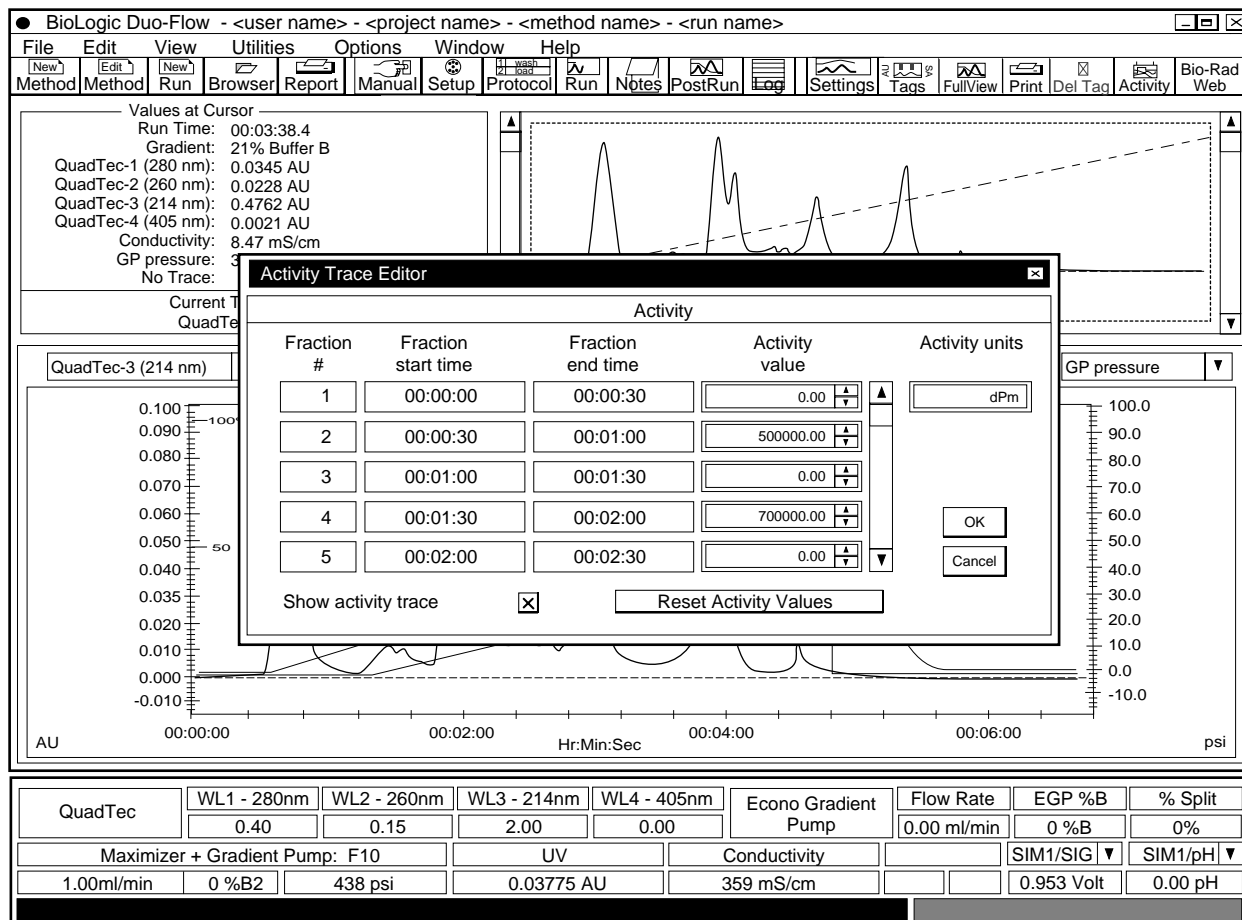

Figure 7-13. Activity Trace Editor
1. Select the **Activity** icon from the toolbar. A box will appear listing each fraction collected in the opened run. (See Figure 7-13.)